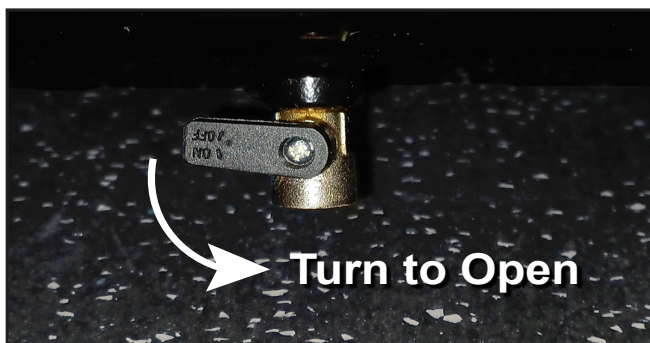

Figure 27. Drain valve handle
3. Open drain valve located below front of tank to release any remaining air (see **Figure 27**).